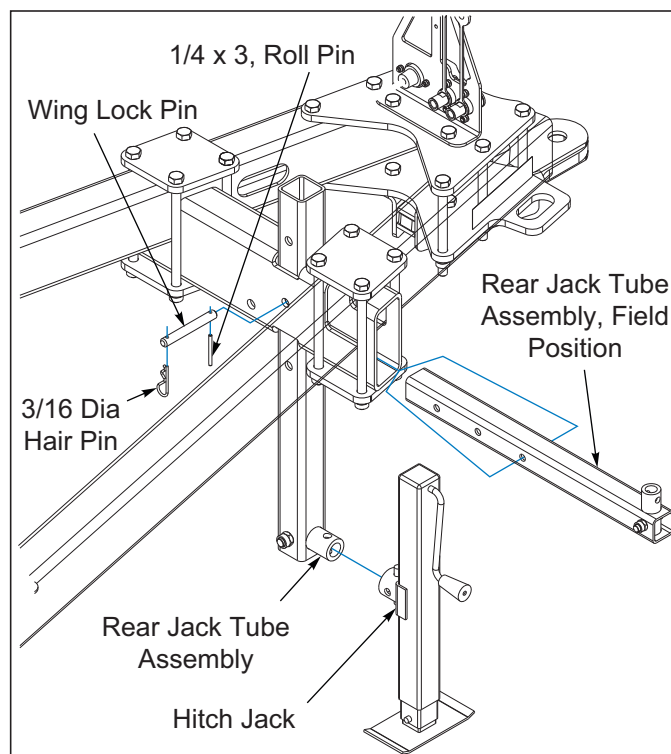

Figure 4-20: Rear Hitch Jack Operation
1. Remove the 3/16 dia hair pin from the wing lock pin and slide the rear jack tube assembly out of the hitch jack mount, field position **See Figure 4-20**